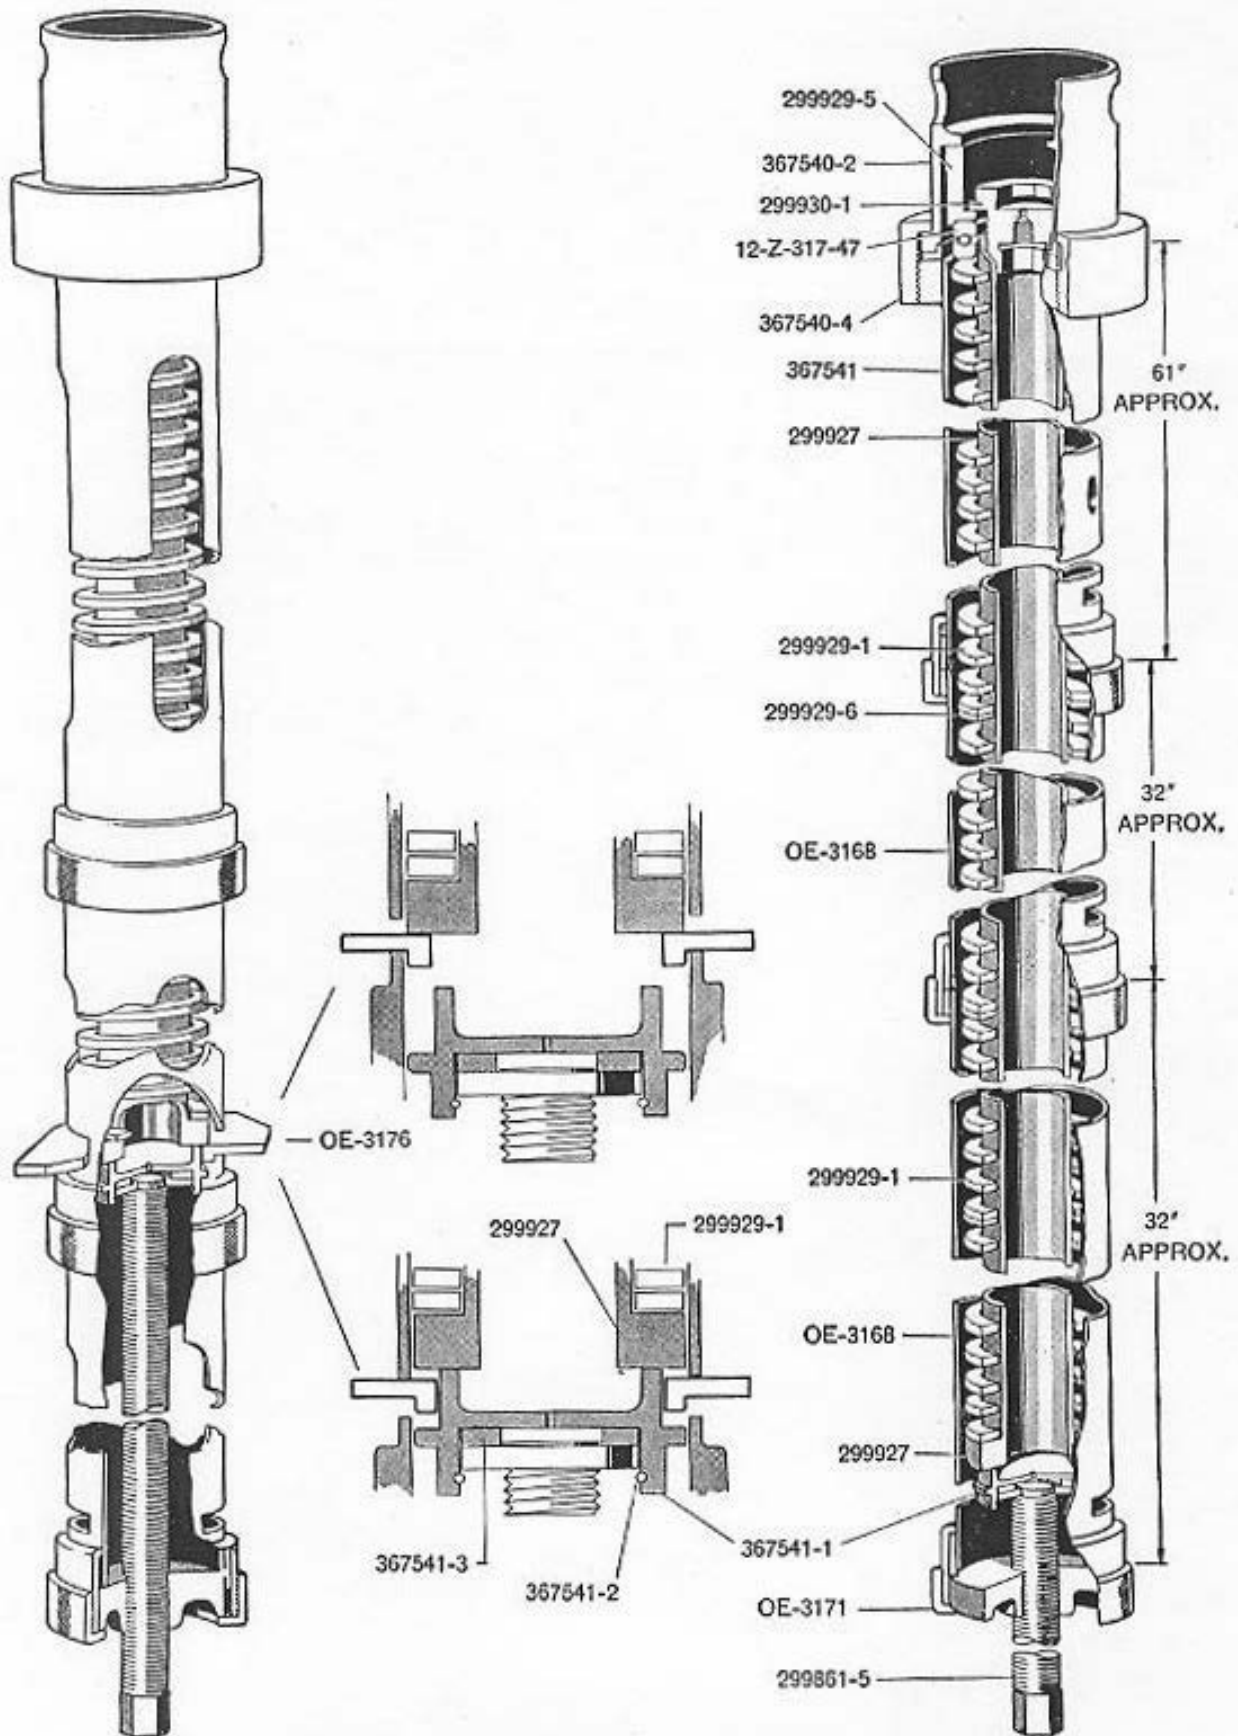

Figure 39—Stripping ram spring and tube assembly
30. Place adapter (367540-2) on upper end of long tube assembly (367541) being sure to engage lugs on adapter in slots in end of tube. Slide nut (367540-4) over adapter and screw onto threaded end of tube. See Figure 39.
35. Install tool wrench brace assembly (OE-3180) on the end of tool screw (299861-5) and turn it until adapter (367541-1) on the end of the screw contacts the flange of ram spring tube assembly (299927). Turn the wrench brace clockwise a few more turns, just enough to compress the ram springs to take their load off retainer plug (299930-1). See Figure 39.
37. Turn the wrench brace counter-clockwise until the flange of the tube is just short of the transverse slots, Figure 39, in the long tube. Insert stop plate (OE-3176) in the transverse slots in long tube (367541).
38. Turn wrench brace counter-clockwise again until the spring pressure is resting on the stop plate just installed. See Figure 39.
- (b) Insert upper thrust bearing (12-Z-317-47) through the slots in long tube assembly (367541) and place it in the counterbore on the bottom face of retainer (299929-5). See Figure 39.
CAUTION—See that spring spacers (299929-6) are in place between the ram springs. Make certain that the springs are in alignment, see Figure 39.
17. Turn the wrench brace clockwise to compress the springs so that the flange of tube (299927) is just beyond the transverse slots, see Figure 39, in the second short tube. Insert stop plate (OE-3176) in these transverse slots as shown.